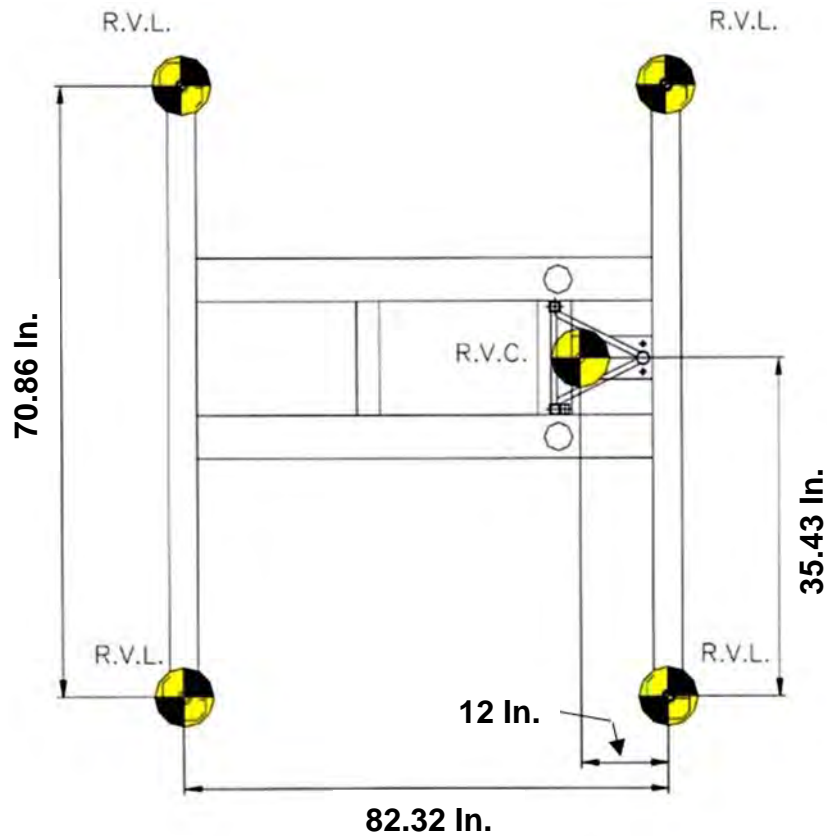

Figure 6.4
- With the use of a level (1), and by using two sides of the rack as a reference plane, check the mast's verticality. Carry out this procedure on the mast as soon as it is installed, bearing in mind that the higher this verification is carried out, the more the leveling will be correct, since the difference generated by the angle of inclination in respect to the ground will be amplified.
- Lower the central jack (RVC – Figure 6.4) until it contacts the surface without applying any pressure on the base, in order to not compromise the machine stability and adjustment.